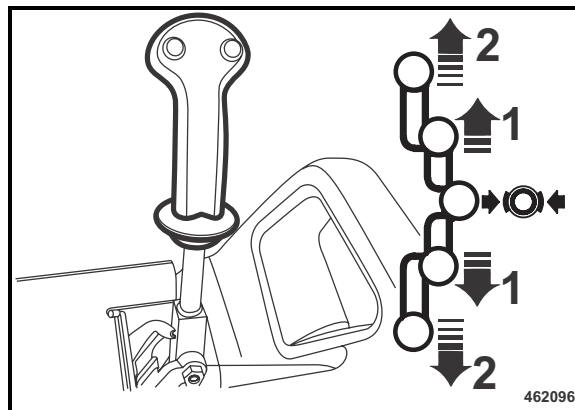

Fig. 77
- Shift the travel lever (Fig. 77) to the desired travel direction forward or reverse.